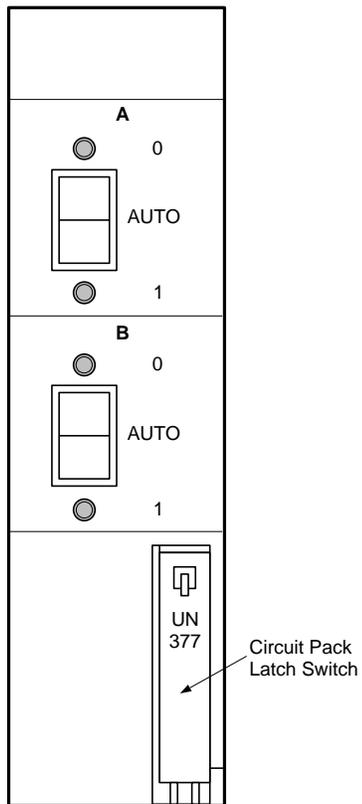

Figure 18-3. Port Switch and Scanner-Distributor Buffer Unit
- 10.1. At the PSSDB [equipment location (EQL) 45-186], verify that both the PSSDB “A” switch and “B” switch are in the **AUTO** position. See Figure 18-3.